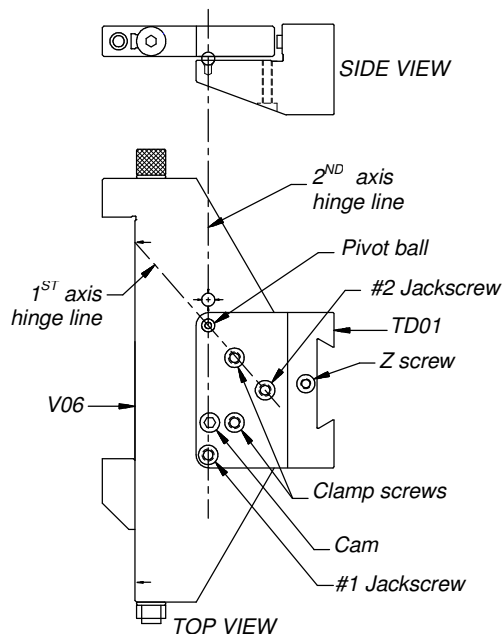

Figure 2
- B) The ball bearing, the #2 jackscrew and #1 screw form a 90° right triangle as shown in Fig. 2.